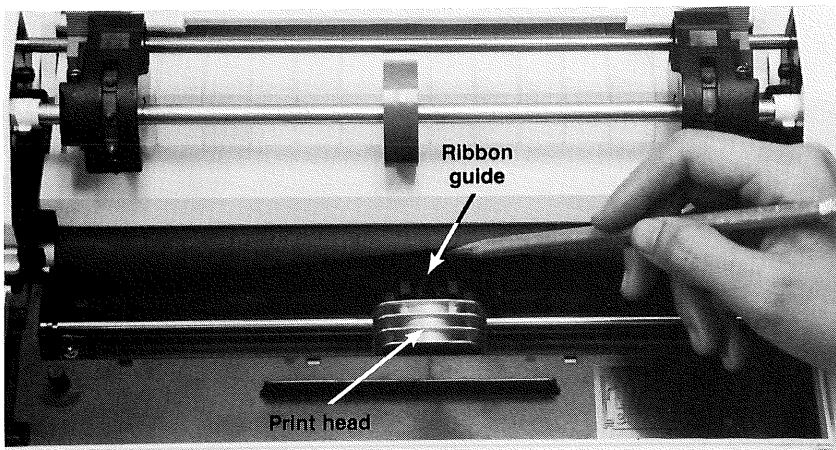

Figure 18.
28. Use a pencil to position the ribbon between the print head and the ribbon guide. Turn the knob on the ribbon cassette in the direction indicated to tighten the ribbon. As the ribbon is tightened, it should slip into place. See Figure 18.